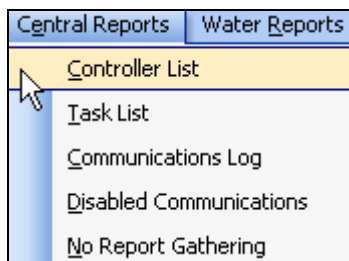

Figure 22.0.1
1. From the toolbar at the top of the screen select **Central Reports** then scroll down to **Controller List** and click on it (Figure 22.0.1).